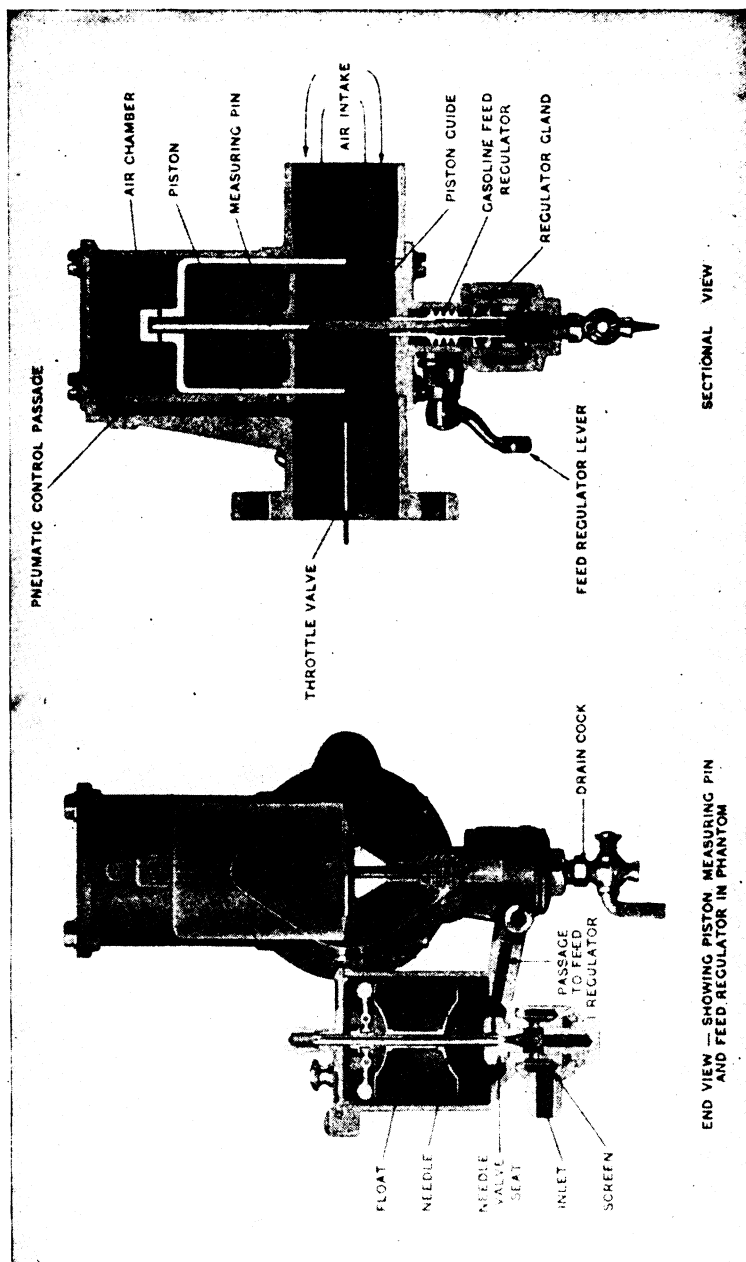

Fig. 92. Front and Side View of the Hudson and Essex Carburetor
**Principle of Operation.** When the throttle is open, the air is drawn out of the air chamber, Fig. 92, through the pneumatic control passage, thus creating a vacuum in the air chamber which allows the piston to be lifted up. As the measuring pin is connected to the piston, it will also be lifted and will expose a deeper portion of the tapered slot on this pin, thus increasing the amount of gasoline as the air is increased. The piston also acts as the air cutoff and returns to its position slowly after the throttle has been closed.